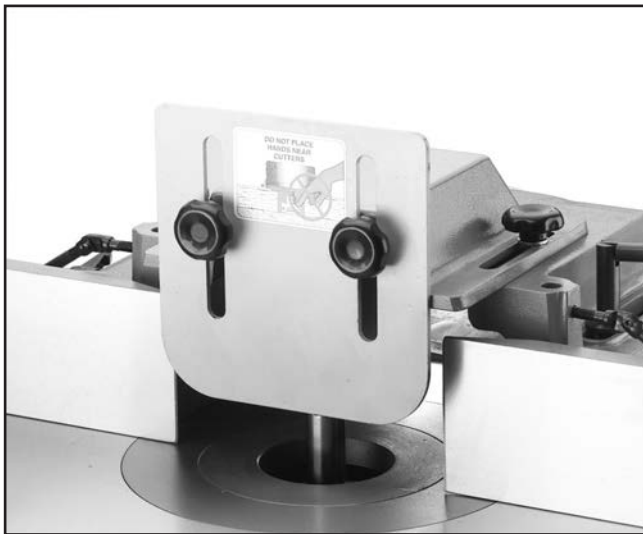

Figure 7. Mounting clearance guard.
1. Place the fence guard against the face of the guard assembly and thread the (2) $\frac{3}{8}$ "-16 x 1" star knobs through the guard and into their respective holes as shown in **Figure 7**.